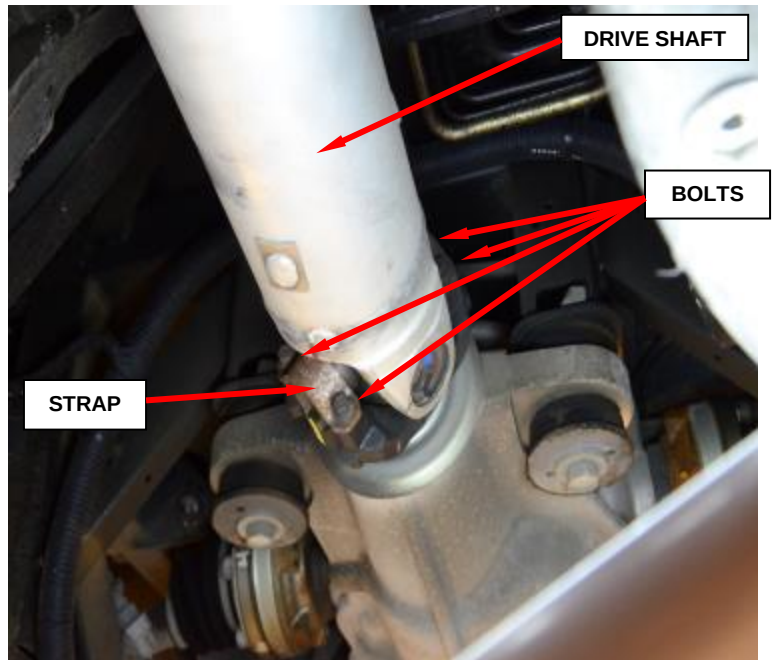

Figure 41 – Drive Shaft
- a. Remove and **discard** the universal joint bolts and straps from pinion yoke and slide propeller shaft yoke out of the transmission. Remove drive shaft (Figure 41).